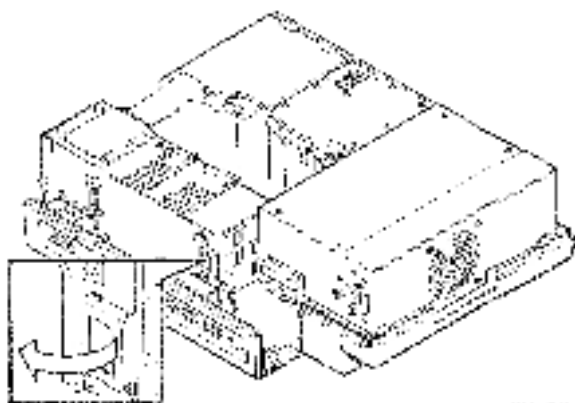

Figure 2-44 Removing Battery Pack
3. Open the battery pack holder and remove the battery pack. The battery pack is mounted on the rear of the card cage (Figure 2-44).